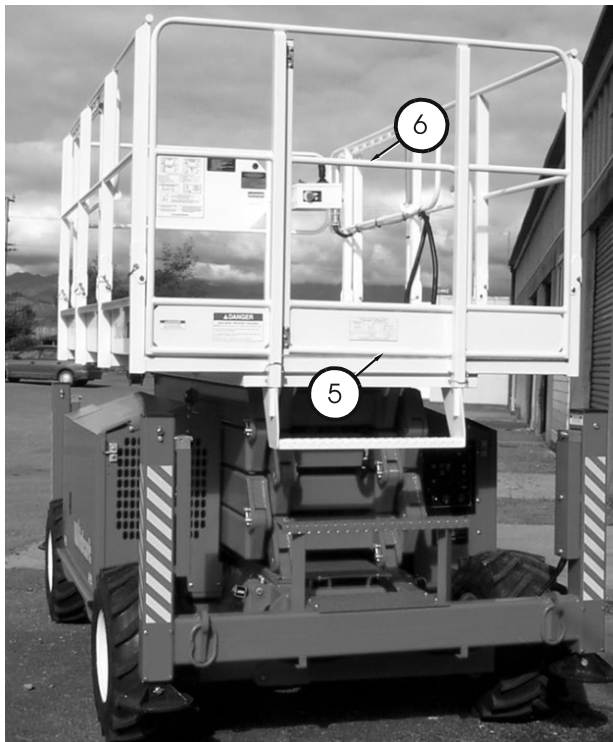

Figure 8.18
- Enter the platform **5** and close the gate **6** (see Figure 8.18).